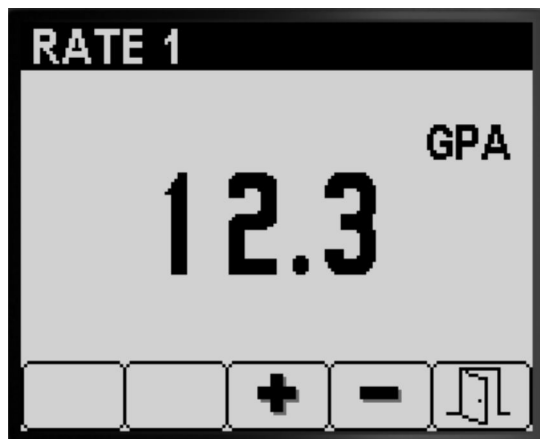

Figure 7
3. Press buttons 3 or 4 to set the raise or lower the sprayer rate (Figure 7).